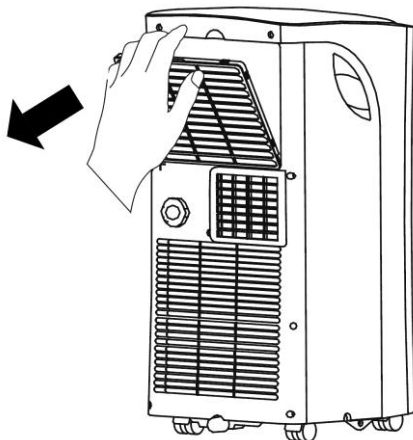

Fig. 21
2. Press the catch at the top the filter cover and lift off the cover (fig21).